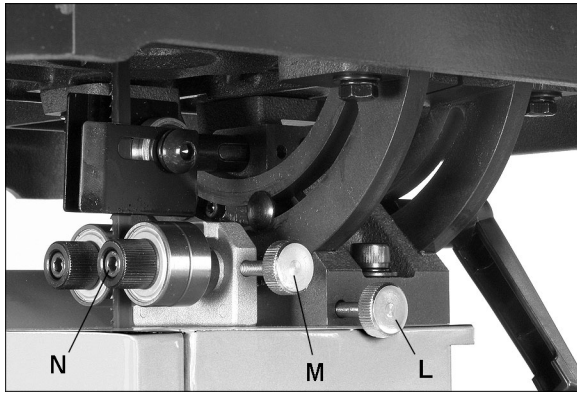

Figure 27 (Blade guard removed for clarity; install lower blade guard before operating)
Refer to Figures 27 and 28.
Movement summary: Loosen lock knob (L) to move guide bracket. Loosen lock knob (M) to rotate side bearing, using knurled knob (N). Loosen lock ring (O, Figure 27) and rotate knob (P) to adjust thrust bearing in relation to blade.